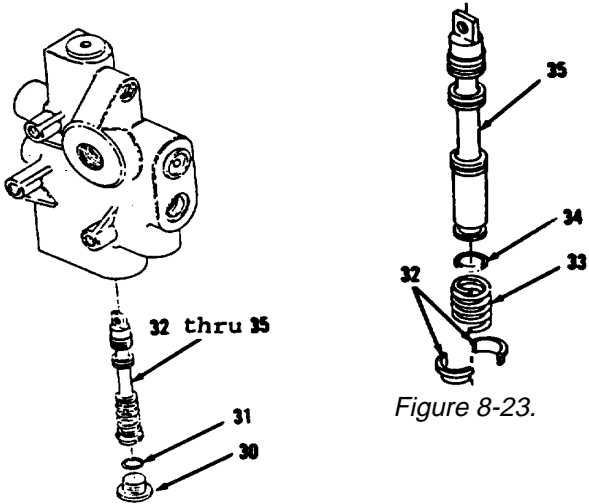

Figure 8-23.
- 13. Compress spring (33, Figure 8-23).
- 14. Remove two retainers (32), spring (33) and washer (34) from stem (35).